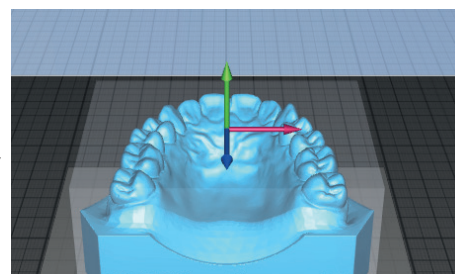

Fig. 2
- ◆ Three arrows are shown, for the three possible axes of rotation (see Fig. 2).